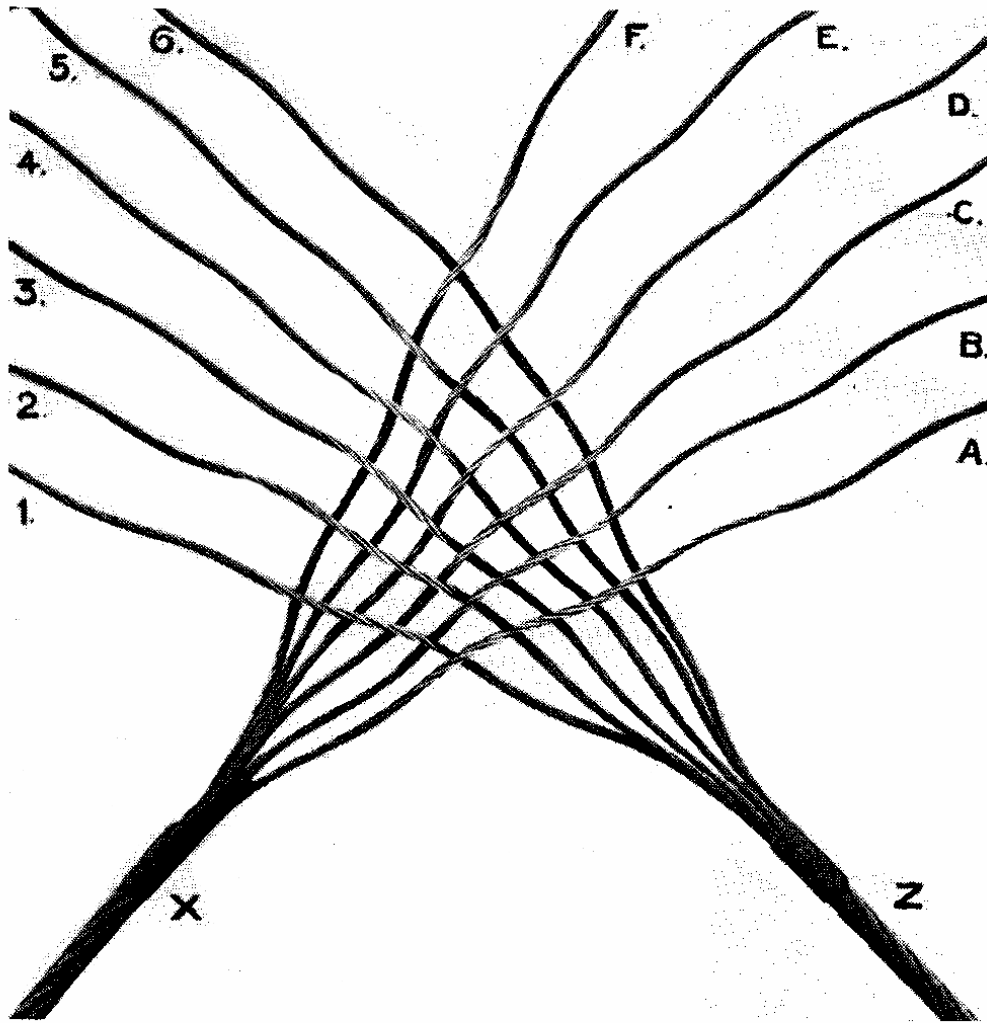

FIG. 1
(1) The strands of each rope are unlaid for about ten feet. The rope should be bound with twine to prevent unlaying any further, and the core of the rope that has been unlaid cut off and the strands laced, as shown in Fig. 1. To do this one man